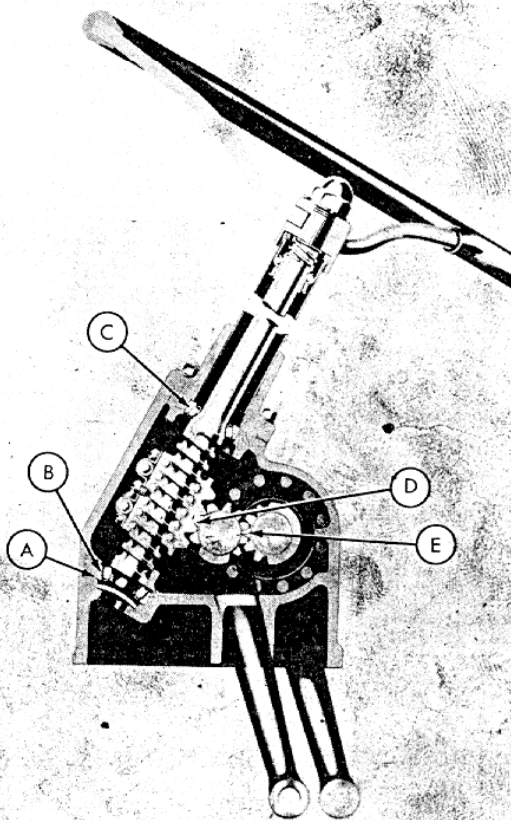

Fig. 3
- Step 2—Drive the bearing cup (A-Figure 3) out of the housing, using a punch.
- Step 1—Install the steering shaft lower bearing (B-Figure 3).
- Step 3—Install the top bearing (C-Figure 3).
Step 8—Center the ball nut on the shaft as shown in Figure 3.
a. The center tooth of the three large sector teeth is meshed with the center space of the teeth on the ball nut (D-Figure 3).
- a. Mesh the center tooth of the sector with the third tooth space on the left sector gear (counting from the solid section of the gear located on the bottom (E-Figure 3).